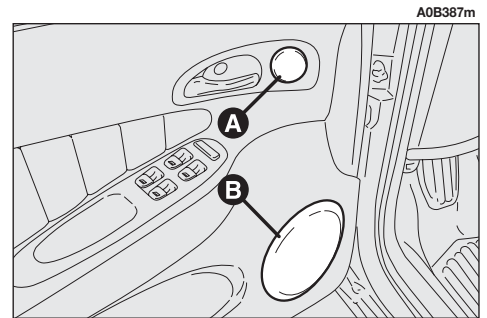
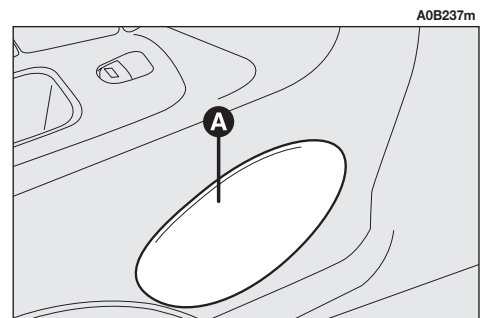

fig. 168
fig. 169
- 2 tweeters (**A-fig. 168**), with 30W power;
- 4 speakers (**B-fig. 168**) and (**A-fig. 169**), 165 mm diameter (2 front and 2 rear), with 40W power.